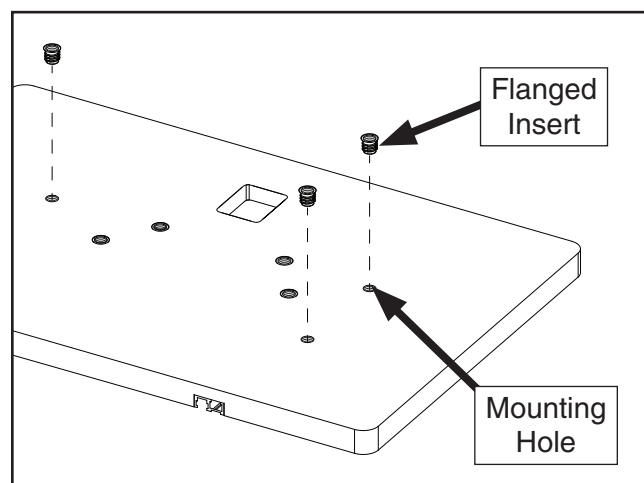

Figure 8. Flanged inserts installed in mounting holes.
8. Drill (4) $\frac{1}{2}$ " diameter, $\frac{1}{2}$ " deep holes at locations marked in **Step 7**.
9. Install (4) $\frac{3}{8}$ "-16, $\frac{9}{16}$ " x $\frac{1}{2}$ " flanged inserts in holes so they are flush with table surface (see **Figure 8**).